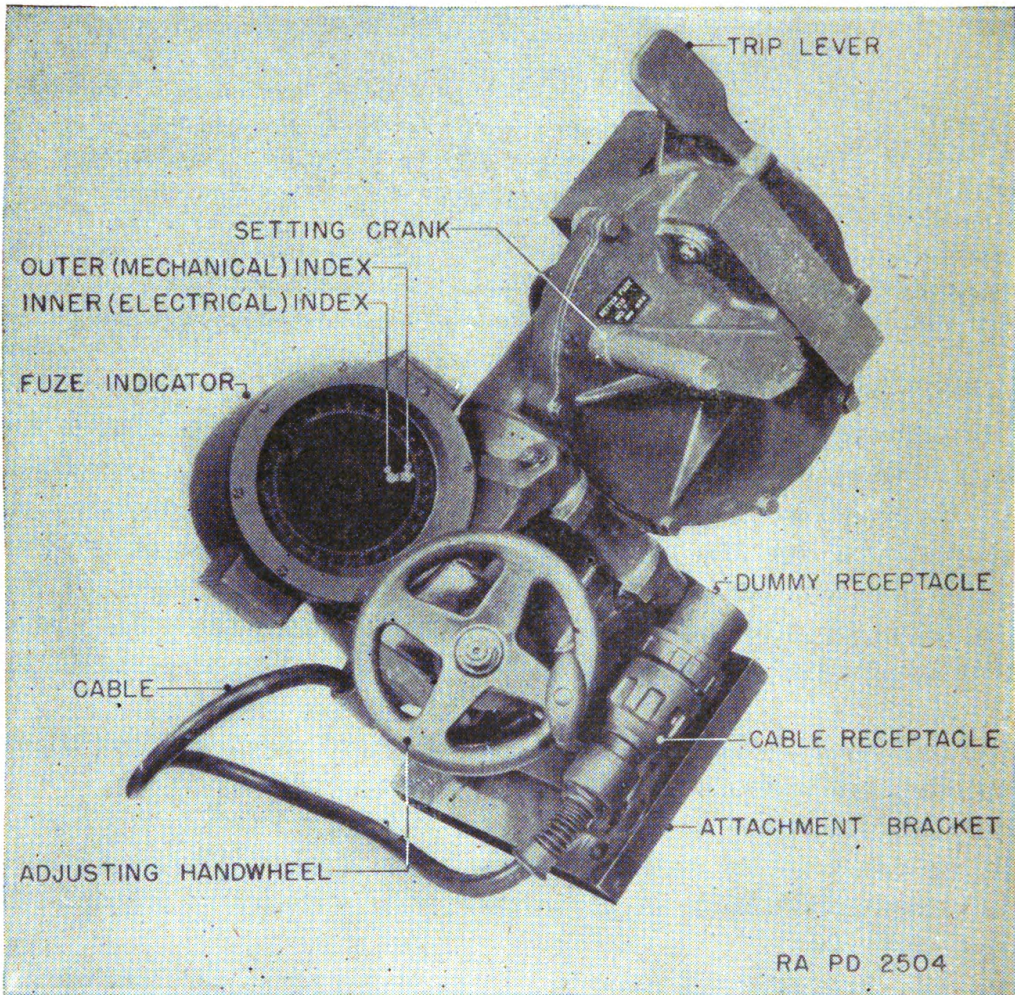

FIGURE 1.—Fuze setter T15—closed.
2. **Description.**—*a.* The fuze setter T15 (figs. 1 and 2) is a manually operated device used for setting time fuzes of 90-mm anti-aircraft gun ammunition in accordance with electrically transmitted fire-control data.